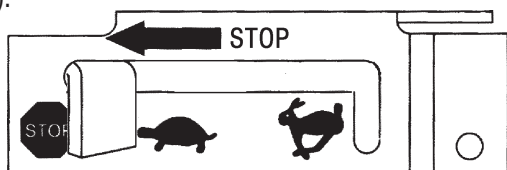

Figure 28. Throttle Lever (Stop Position)
1. Move the throttle lever quickly to the **OFF** position (Figure 28).